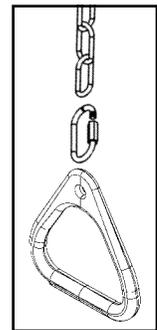

Fig. 7
16. Fasten Monkey Rings to chains using quick link connectors. Tighten securely with an adjustable wrench. (Fig. 7)